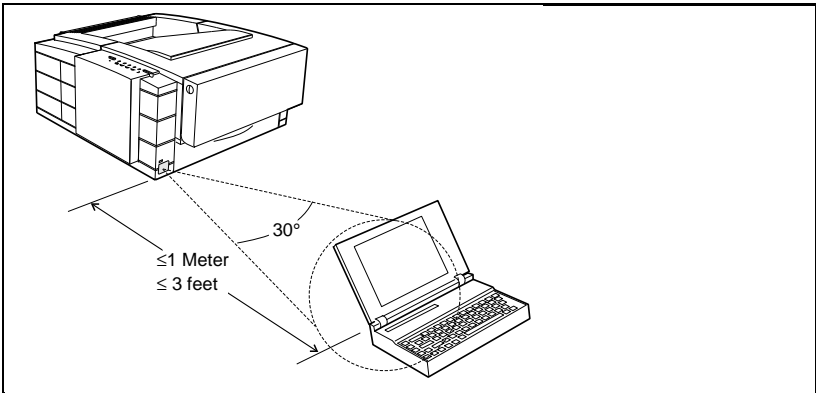

Figure 10 IRDA Port ranges (5P/5MP shown)
The infrared (IR) port on your HP LaserJet 5P/5MP or 6P/6MP printer is located on the lower front left corner of the printer (Figure 9). This port is compliant with the specifications determined by the Infrared Data Association (IrDA). Just above the port is a status light that indicates when the port is activated. To use the IR port, you need to use a portable device that also includes an IrDA-compliant IR port and be within the range of operation (see Figure 10).
2. Align your laptop computer (or other portable equipment) that is equipped with an IrDA-compliant IR port within 3 feet (1 m) of the IR port on the printer and at an angle of  $\pm 15$  degrees to ensure printing (Figure 10).
If all these elements are properly installed and configured, use the IR test tool to test the IrDA protocol transmission and device operation. This tool for troubleshooting IR communication problems, shown in Figure 10, has been developed by Genoa Technology, Inc., in cooperation with Hewlett-Packard. The part number is 5062-4661 and can be ordered through HP Parts Direct Ordering.